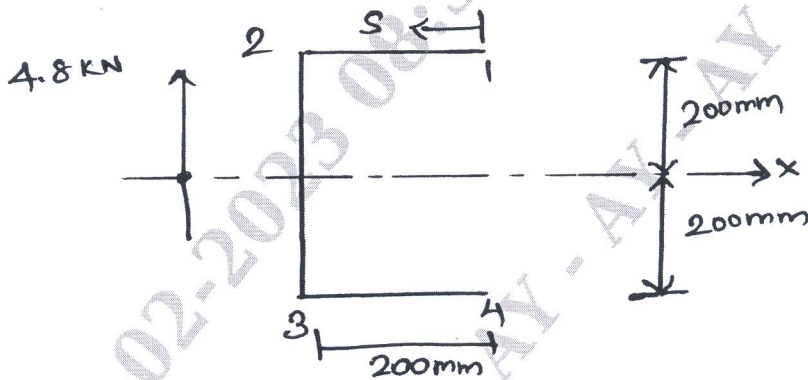

Fig.Q8(b)
b. Calculate the shear flow distribution in the channel section shown in Fig.Q8(b) produced by a vertical shear load of 4.8kN acting through its shear center. Assume that the walls of the section are effective in resisting only shear stresses, while the booms each of area 300mm^2 , carry all the direct stresses.